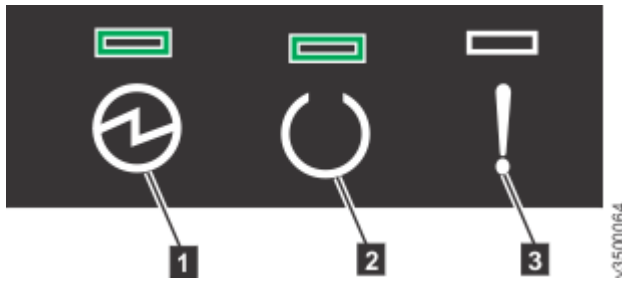

Figure 75. Expansion enclosure LEDs
2. From the rear of the rack, check the LEDs on each expansion enclosure (see Figure 75 on page 76).